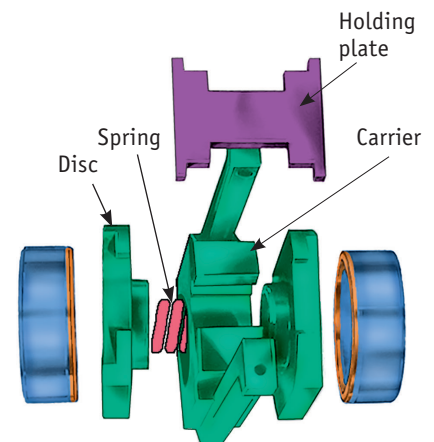

Figure 5
**2. Parallel slide gate valves** (Figure 5) feature two discs retained in a cage assembly, the seating surfaces of which are parallel to the valve seat rings.
If you recall, in the parallel slide design (Figure 5), the two discs are held apart in the cage by a spring(s). This spring(s) allows the discs more than enough travel to exceed the effects of thermal expansion.